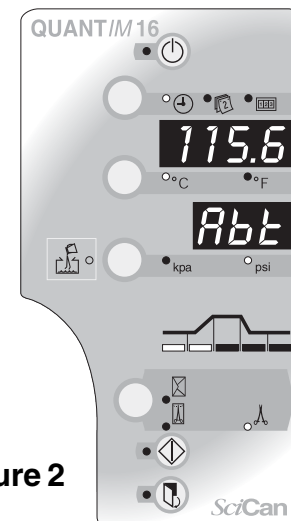

Figure 2
- This results in the pressure display flashing “Abt” (Figure 2).